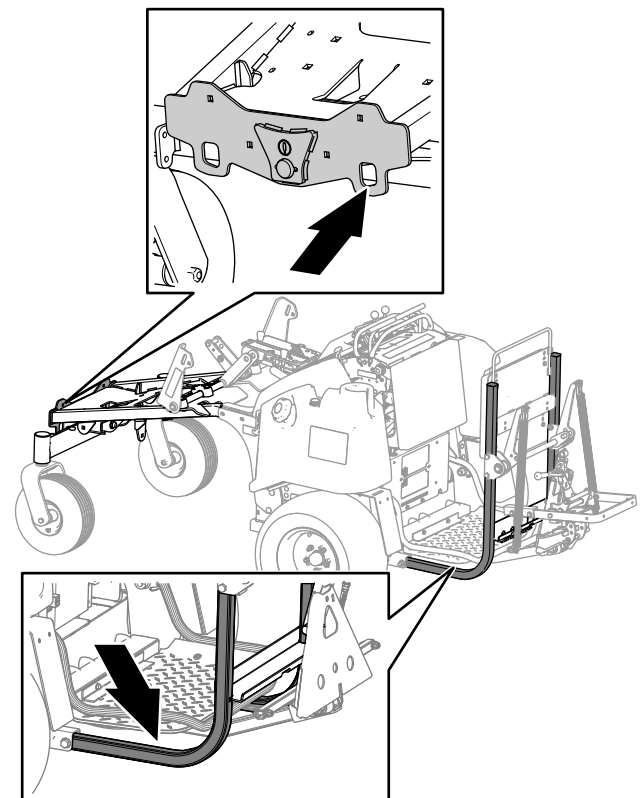

Figure 61
8. Tie down the machine at the front frame and the rear-attachment frame (Figure 61) with straps, chains, cable, or ropes.